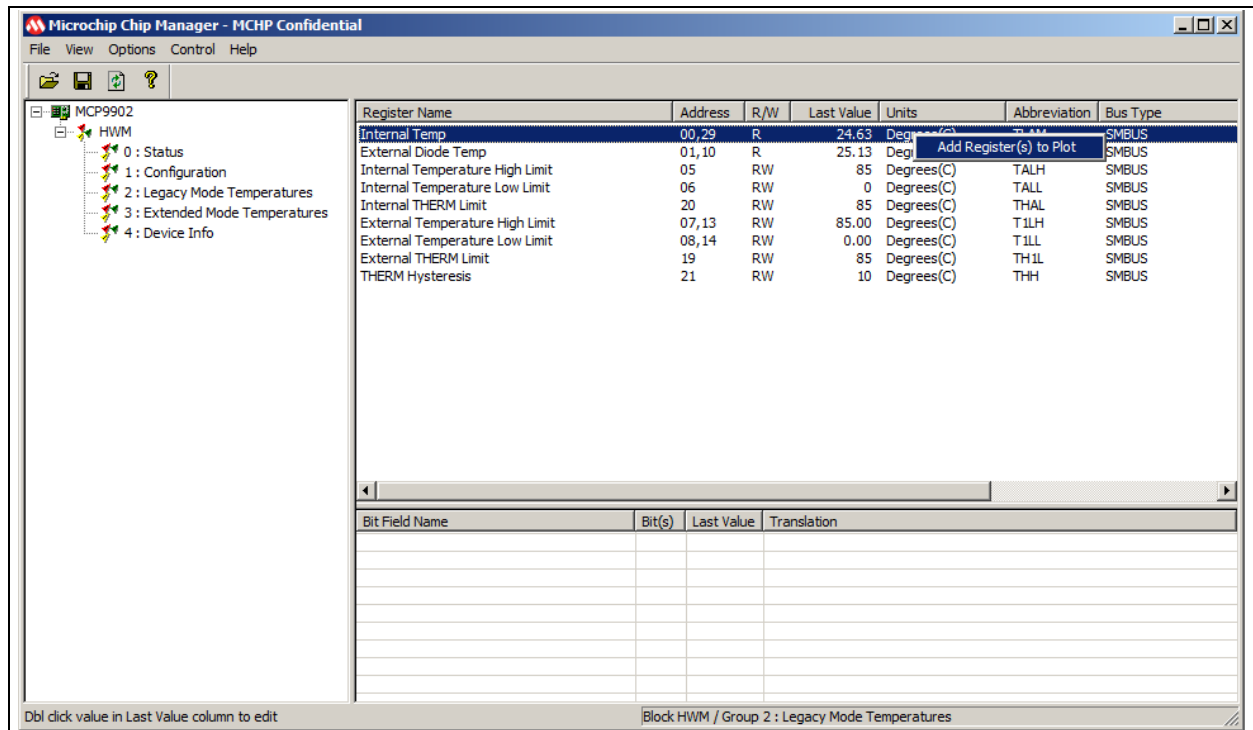

FIGURE 4-1: Adding Registers to Plot.
- To plot a register, right-click the desired register name or value. Select Add Register(s) to Plot from the context menu (see Figure 4-1), to add the register or value to the plot list.